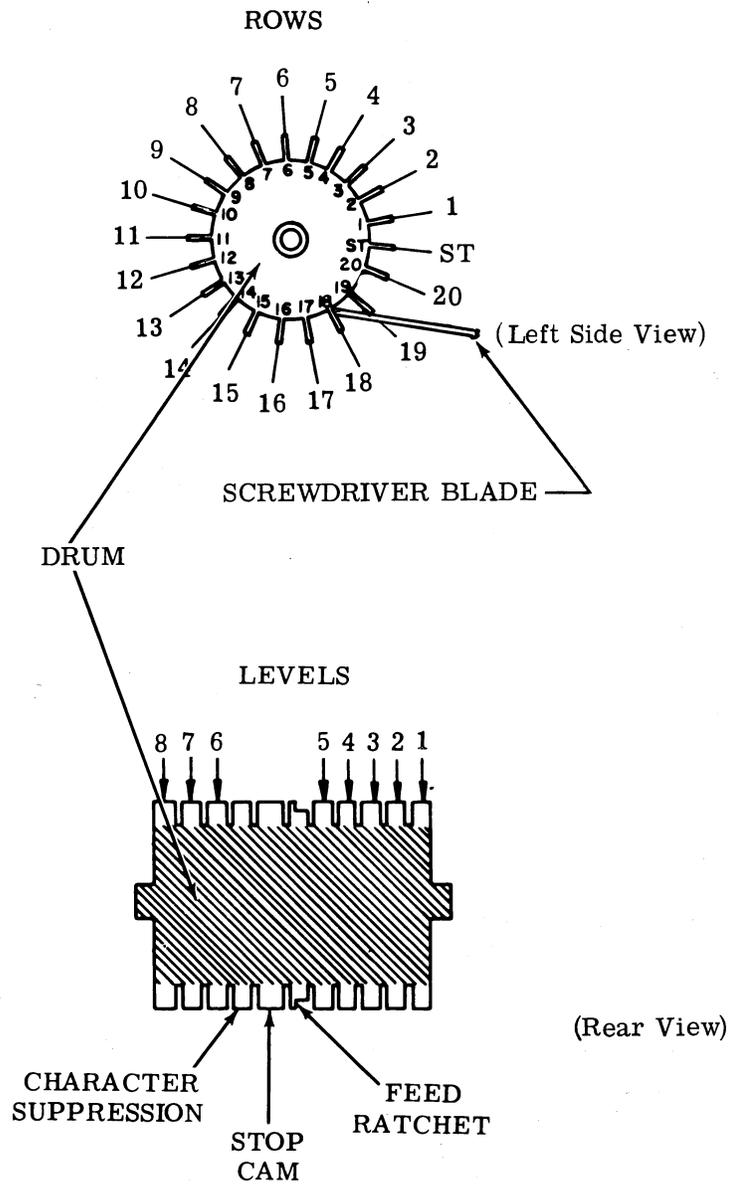

Figure 5 - Answer-Back Drum
2.06 Code the answer-back drum in a counter-clockwise direction (Figures 5 and 6), starting with row no. 1.
2.07 A particular character is coded by either retaining or removing tines within a row, as illustrated in Figure 5. A tine may be removed by either of the two following methods:
(a) Method 1: Place the end of a screwdriver blade at the base of a tine in the row previously coded. Press the side of the blade against the top of the unwanted tine until the tine breaks off. Figure 5 illustrates this method — pressure applied to base of row no. 18 and against top of adjacent tine being removed from row no. 19.